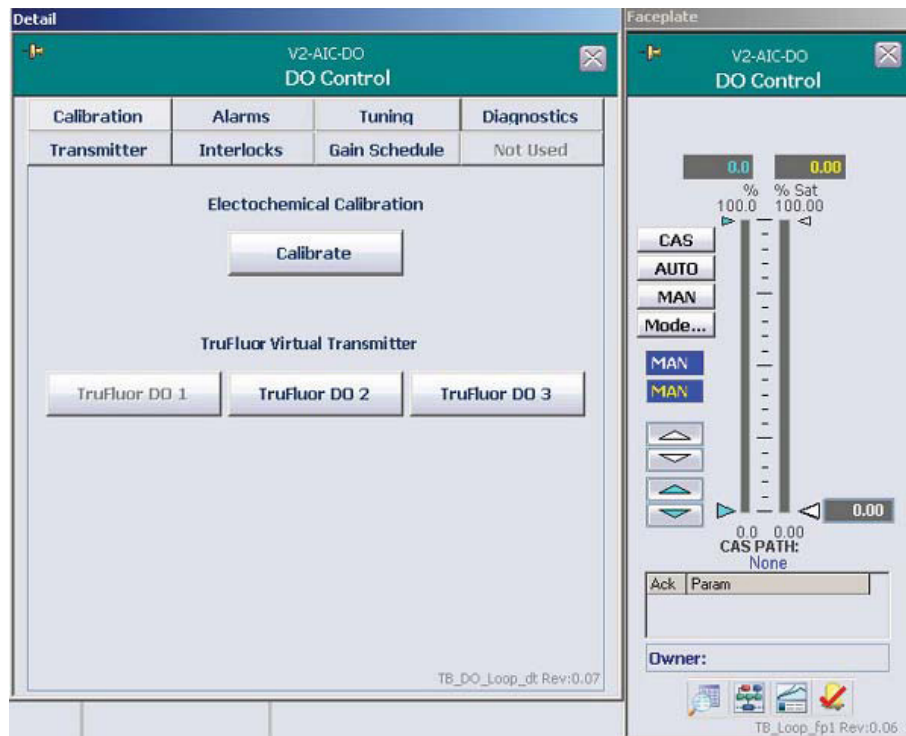

Figure 2.27. DO electrochemical calibration.
1. Click **Calibrate** to open the calibration screen (Figure 2.27).